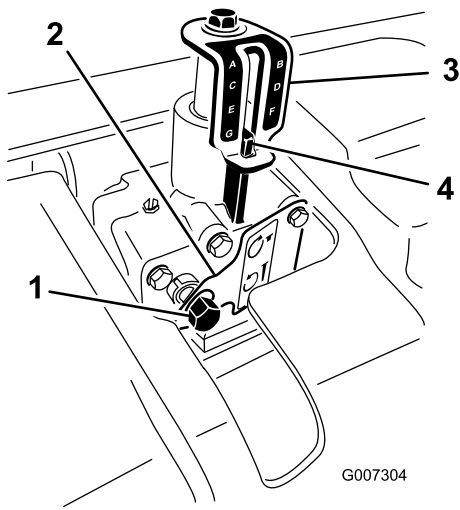

Figure 24
3. Insert a 9/16-inch socket with a ratchet onto the depth adjuster input shaft (Figure 24).
5. Rotate the depth adjuster clockwise to reduce the aeration depth or counterclockwise to increase the aeration depth. (Figure 24).
6. Rotate the depth adjuster input shaft until the desired depth is attained as shown on the depth indicator decal (Figure 24).